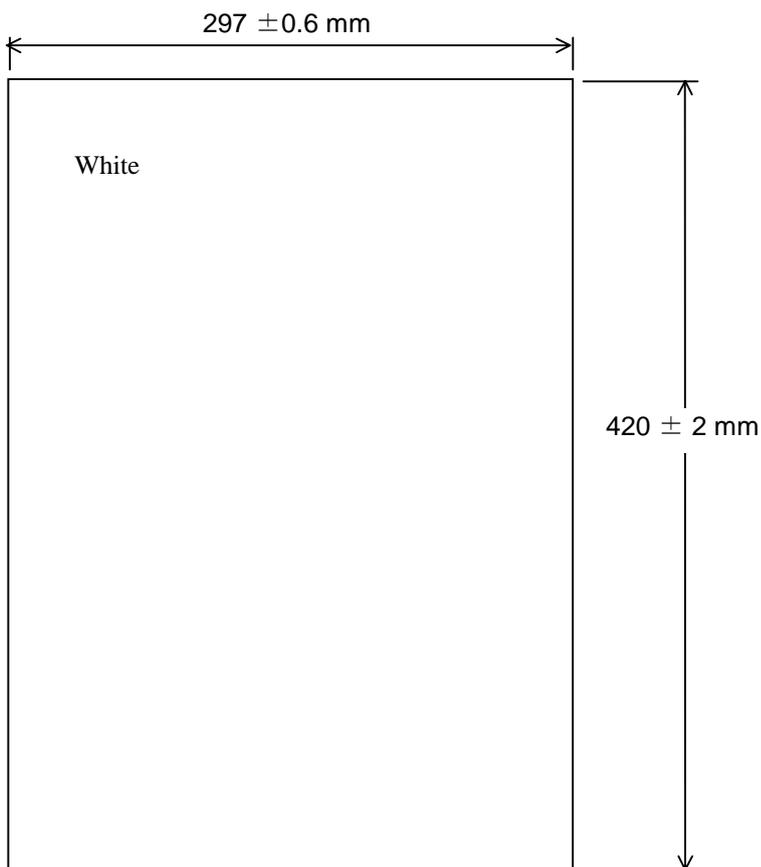

Figure 6.1.3 Magnification / Offset Adjustment Test Sheet
Before this adjustment, obtain the Test sheet described in the figure 6.1.3. This is an A3 size sheet of paper.
- (2) Change the selection by pressing the **Function** button.
- (3) When adjusting the ADF, set a white A3 size sheet (Figure 6.1.3) on the ADF paper chute in Portrait orientation, and adjust the sheet guide to the width of the sheet.
For the FB adjustment, set a white A3 size sheet (Figure 6.1.3) aligning its corner to the corner of the Document bed (Section 7.1.4), and leave the Document cover open. In case the optional black document pad is attached, close the Document cover.
- Before this adjustment, obtain the Test sheet described in the figure 6.1.3. This is an A3 size sheet of paper.
- When adjusting the ADF, set a white A3 size sheet (Figure 6.1.3) on the ADF paper chute in Portrait orientation, and adjust the sheet guide to the width of the sheet.